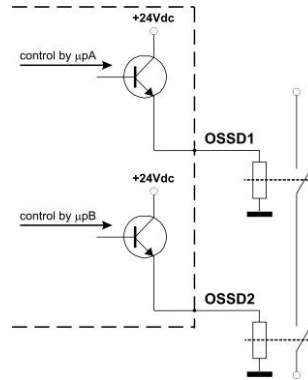

Fig. 22
• The OSSD1 and OSSD2 safety contacts cannot be connected in series or in parallel, but can be used separately (Fig. 22).